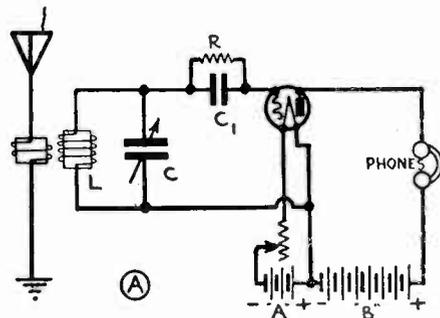

Fig. 44A: Circuit of grid leak and condenser detector.
71. GRID CONDENSER METHOD: The grid condenser, or grid current rectification method of operating the three-electrode tube as a detector, is shown in Fig. 44A. This is based upon the fact that the grid can act more or less in the same manner as the plate and attract electrons itself as soon as it becomes positive with respect to the filament. The